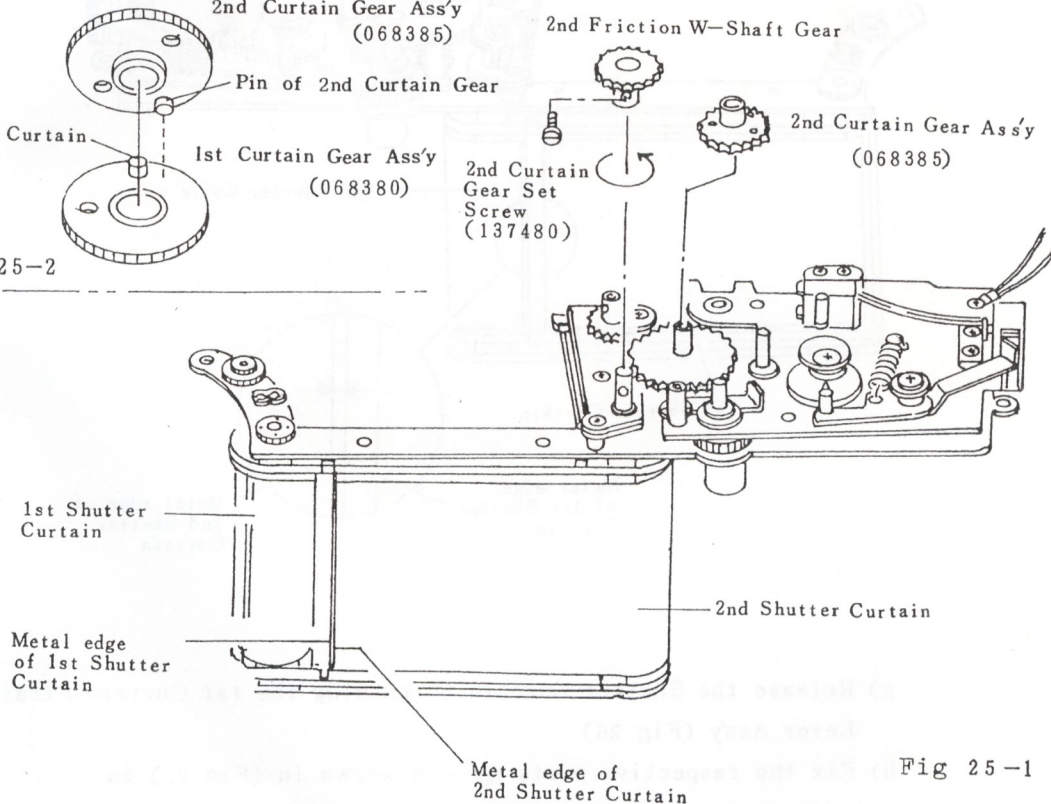

Fig 25-1
- c) By turning the 2nd Shutter Curtain Shaft with a screwdriver (counter-clockwise) in the direction of the arrow, then make sure the metal edge of the 2nd Shutter Curtain should overlaps with the 1st Shutter Curtain when installing the 2nd Friction W-Shaft Gear and 2nd Curtain Gear Set Screw (137480) to the correct position and direction as shown in (Fig 25-1).